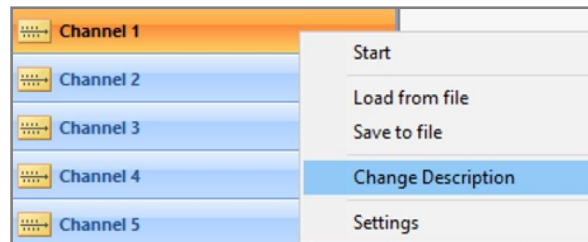

Figure 3.3.7 Channel Description change
D) 'Change Description': Will edit the current name or description of the protocol for the specific channel (figure 3.3.7).